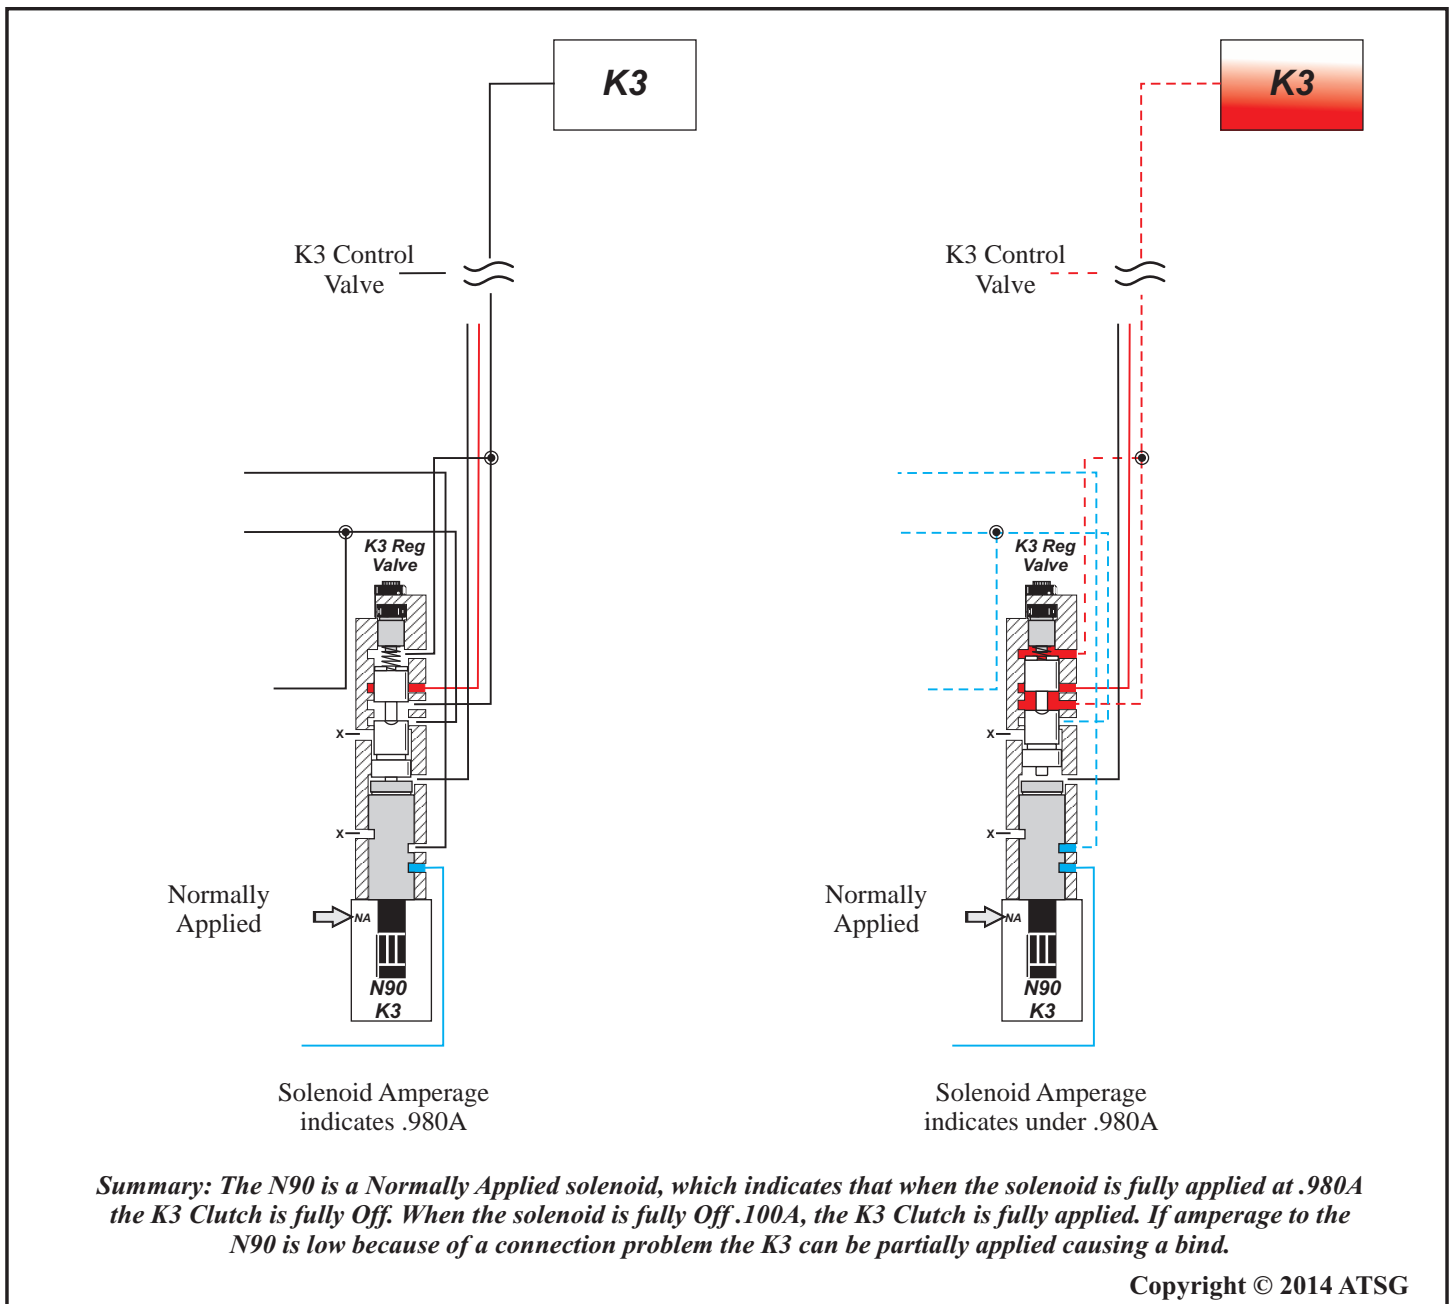

Figure 2
- CAUSE:** The cause may be, that the internal harness connector, shown in Figure 1, is full of transmission fluid causing a connection issue. This connection issue causes, in most cases, low amperage to a Normally Applied solenoid which in turn can cause a partial application of a clutch or brake creating the partial bind. Figure 2 shows a partial schematic of the N90 Solenoid and its control of the K3 regulator valve. Notice that the N90 Solenoid is Normally Applied which means when the solenoid is Off the K3 Clutch is applied. Figure 2 also shows that in First gear the amperage to the solenoid is .980Amps. If there is a connection problem with the connector the amperage reading on the scan tool will be lower in turn causing the K3 Clutch to be partially applied causing the bind on take off.